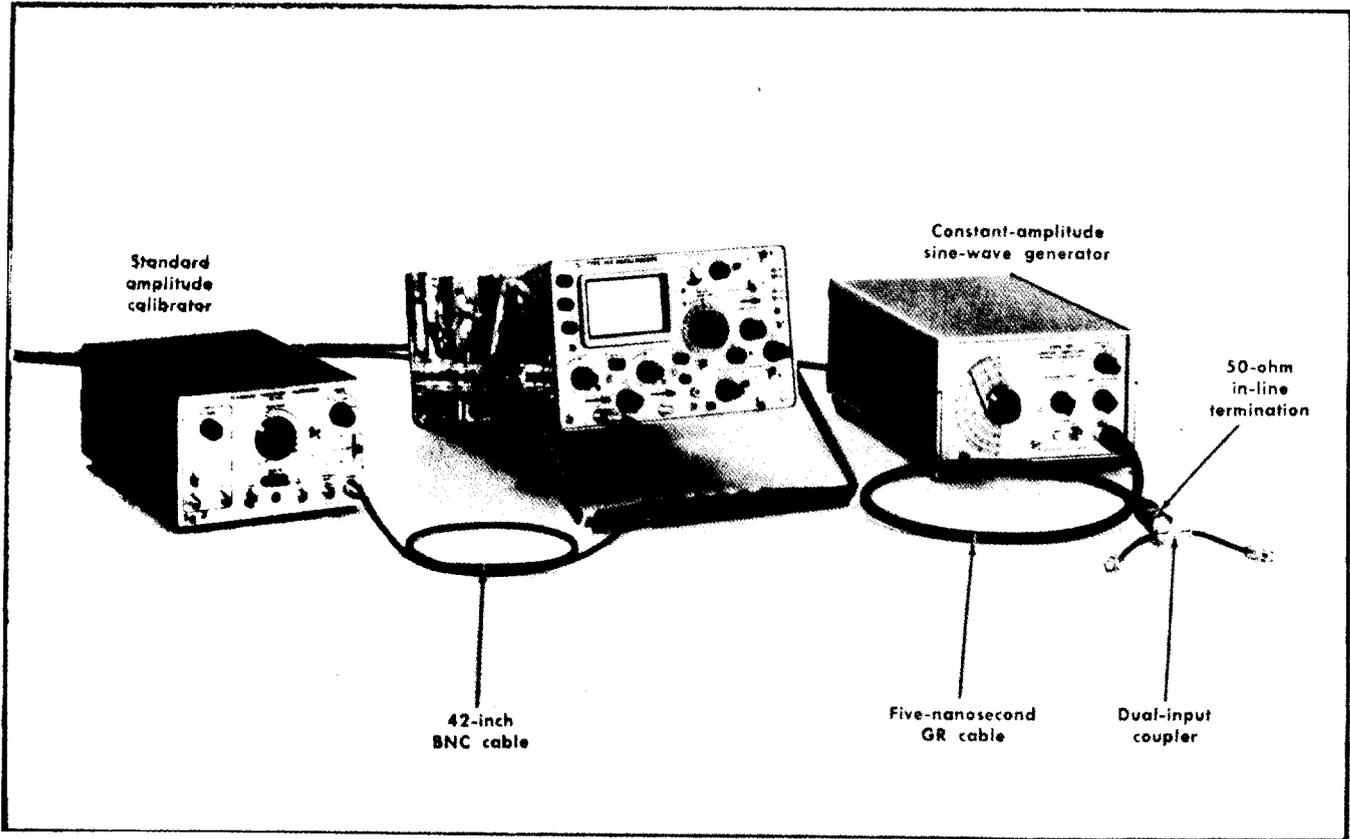

Fig. 6-50. Initial test equipment setup for steps 61 through 66.
- a. Test setup is shown in Fig. 6-50.